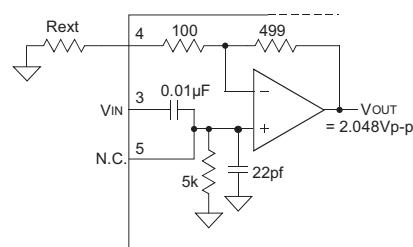
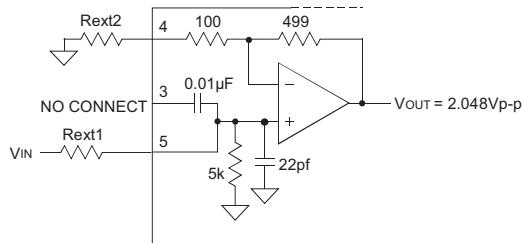
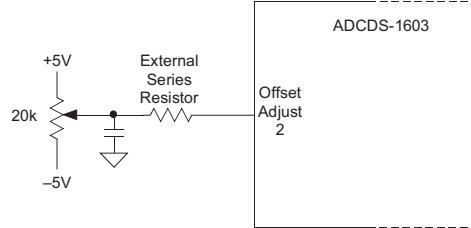

Figure 2b. Direct Mode
Figure 2d. Non-inverting Mode
Figure 3. Offset Adjustment Circuit
3. Offset adjustment resistor (Figure 3), Rext (Figure 2b, 2c, & 2f), and Rext1 & Rext2 (Figure 2d) should be placed as close to the ADCDS-1603 as possible.
When applying inputs that are less than 2.048Vp-p, a coarse gain adjustment (applying an external resistor to pin 4) must be performed to ensure that the full scale pixel data input signal (saturated signal) produces 2.048Vp-p signal at the input-amplifier's output (VOUT) (See figure 2b & 2C).
The ADCDS-1603 achieves its specified accuracies without the need for external calibration. If required, the device's small initial offset error can be reduced to zero using the OFFSET ADJUST (pin 2) feature (See figure 3). For fine gain adjustment model, contact the factory.
Figure 2b. describes the configuration for applications using a pixel data input signal with an amplitude greater than 0.342Vp-p and less than 2.048Vp-p. Using a single external series resistor, the coarse gain of the ADCDS-1603 can be set. The coarse gain of the input amplifier can be determined from the following equation: VOUT = 2.048Vp-p = VIN \* (1+(499/(100+Rext))) (all internal resistors having a 0.1% tolerance).
Figure 2d. describes the typical configuration for applications using a pixel data input signal whose amplitude is greater than 2.048Vp-p. Using a single external series resistor (Rext 1) in conjunction with the internal 5K (1%) resistor to ground, an attenuation of the input signal can be achieved. The coarse gain of this circuit can be determined from the following equation:
Manual offset adjustment for the ADCDS-1603 can be accomplished using the adjustment circuit shown in Figure 3. A software controlled D/A converter can be substituted for the 20KΩ potentiometer. The offset adjustment feature allows the user to adjust the Offset/Dark Current level of the ADCDS-1603 until the output bits are 00 0000 0000 0000 and the LSB flickers between 0 and 1. The ADCDS-1603's offset adjustment is dependent on the value of the external series resistor used in the offset adjust circuit (Figure 3) and the gain of the input-amplifier.